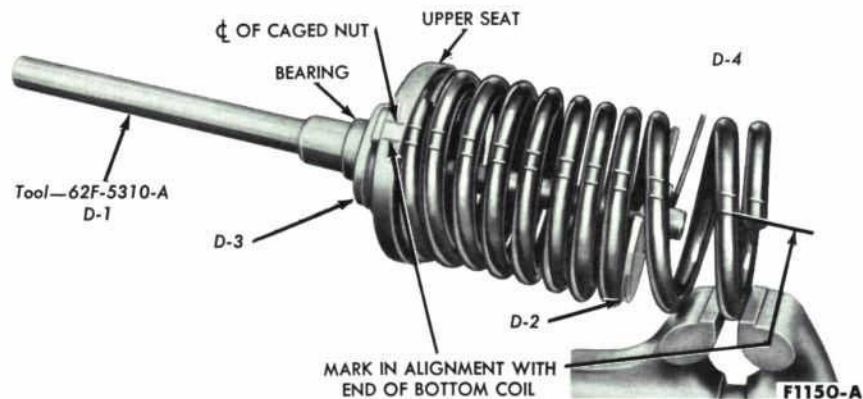

FIG. 78—Removal or Installation Tool and Upper Seat on Bench
5. Place the spring and tool assembly in a vise. Scribe two marks on the narrow side of the spring upper seat for proper alignment with the replacement spring (Fig. 78). The first mark should be aligned with the centerline of the caged nut. The second mark should be 3/4-inch from the first mark and in alignment with the end of the bottom coil. Release the spring tension by turning the tool shaft and remove the tool and seat assembly from the spring.
1. Place the new spring in a vise, and position the upper seat and insulator assembly to the spring so that the mark made during removal is aligned with the end of the bottom coil (Fig. 78). If a new seat is being installed, first scribe a mark at the centerline of the caged nut on the narrow side of the seat. Position the seat to the spring with the
caged nut mark aligned with the end of the bottom coil. Scribe a second mark 3/4-inch clockwise from the first, then turn the seat counterclockwise until the second line is aligned with the end of the bottom coil (Fig. 78). Install the spring compressing tool (Fig. 78), and compress the spring by turning the tool shaft.